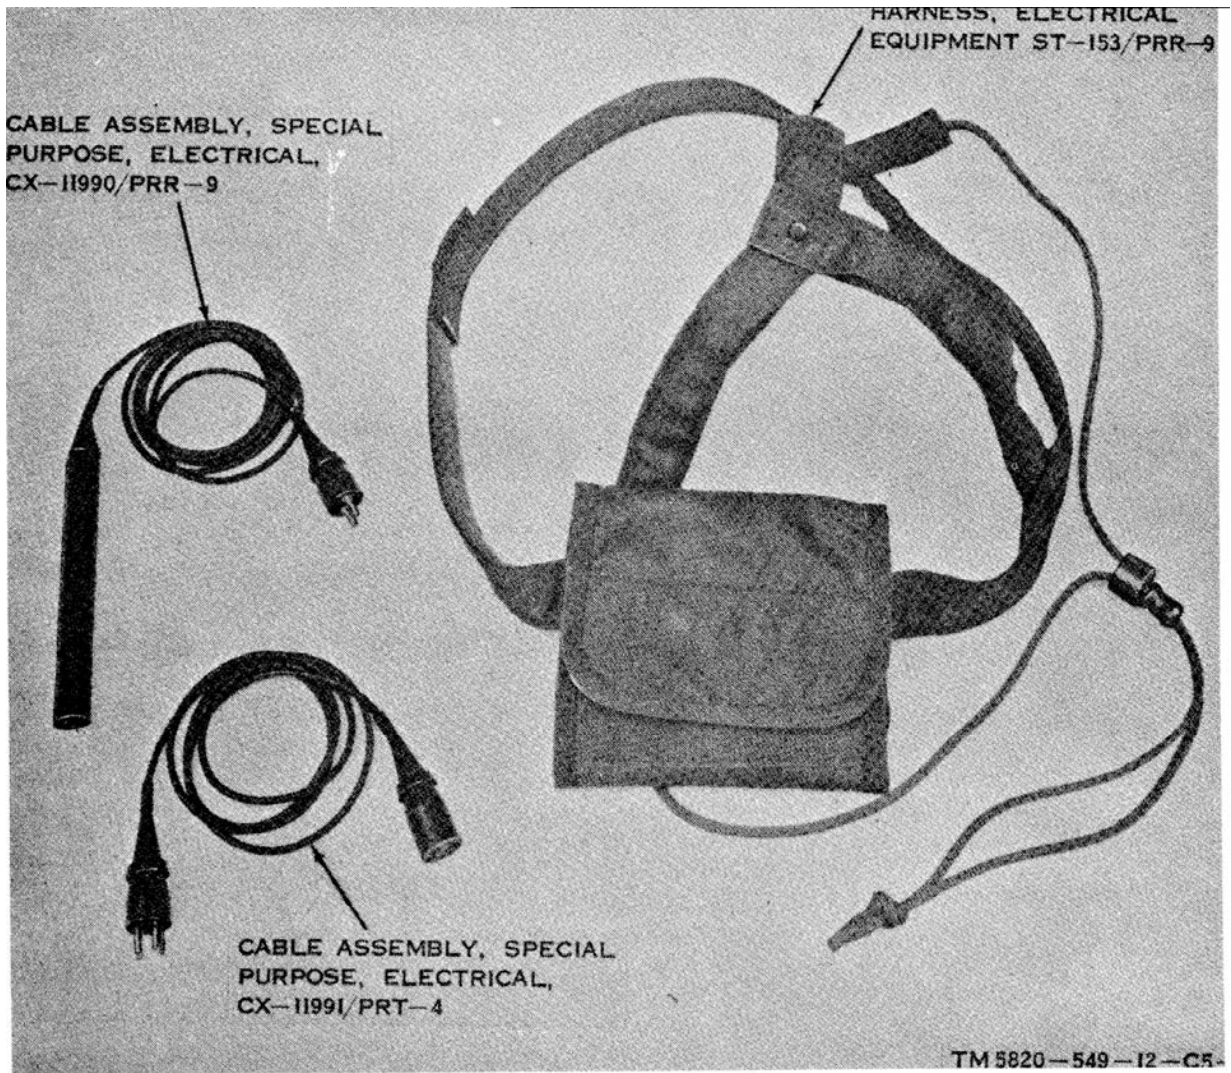

Figure 1-4. Arctic accessories.
d. Arctic accessories are required for operation of the receiver and transmitter under arctic conditions, but are not supplied as part of the transmitter or receiver. Use and application of the arctic accessories are covered in paragraphs 2-12 and 3-7. The arctic accessories (fig. 1-4) consist of the following:
(1) Cable Assembly, Special Purpose, Electrical CX-11990/PRR-9 (receiver battery extender cable) Federal Stock No. (FSN) 5995-179-8256.
(2) Cable Assembly, Special Purpose, Electrical CX-11991/PRT-4 (transmitter battery extender cable) FSN 5595-179-8257.
(3) Harness, Electrical Equipment ST-1 153/PRR-9 (receiver harness) FSN 5820-443-1050.